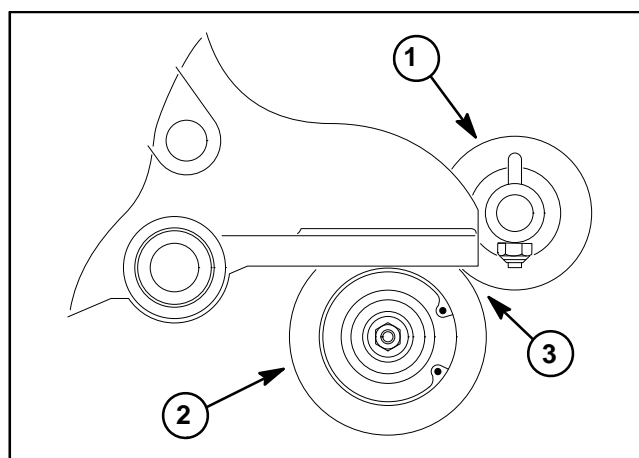

Figure 61
6. Check that roller brush is parallel to rear roller with 0.060" (1.5 mm) clearance to light contact with roller (Fig. 61). If contact is incorrect, brush operation will be adversely affected.
B. If driven pulley (item 12) was removed from roller brush shaft, apply antiseize lubricant to splines of pulley bore and slide pulley onto shaft. Install and tighten flange nut until pulley is seated onto shaft and then torque flange nut from **27 to 33 ft-lb (37 to 44 N-m)**. Use a $\frac{1}{2}$ wrench on roller brush shaft flats to prevent shaft from rotating when tightening nut.
D. If driven pulley (item 12) was removed, check and adjust alignment of drive and driven pulleys (see Rear Roller Brush Drive System in this section).
4. Check that brush is parallel to rear roller with 0.060" (1.5 mm) clearance to light contact with rear roller (Fig. 61). If contact is incorrect, brush operation will be adversely affected.